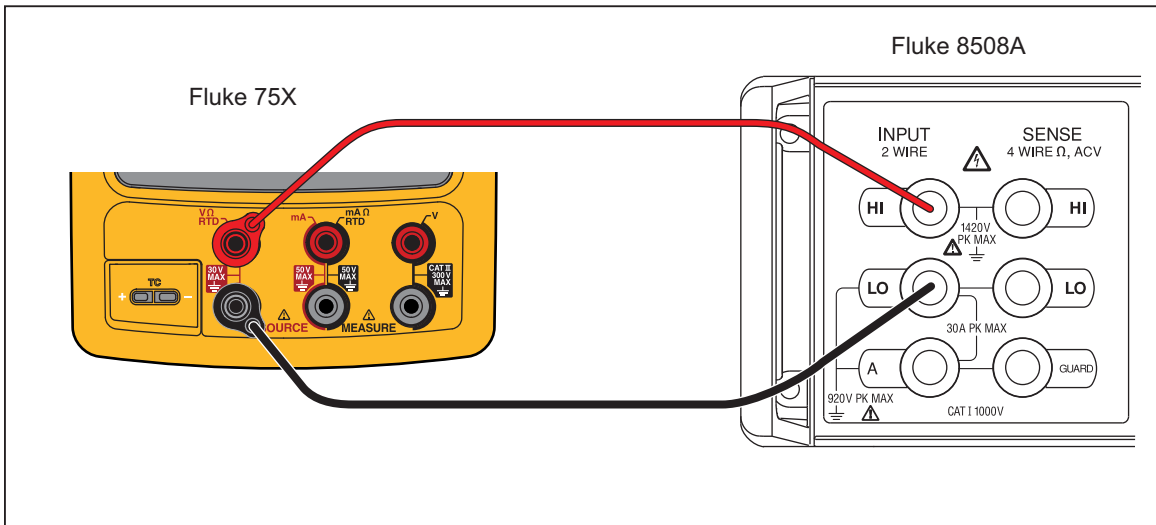

Figure 5. DC Volts Source Verification Connections
1. Connect the UUT to the 8508A as shown in Figure 5.